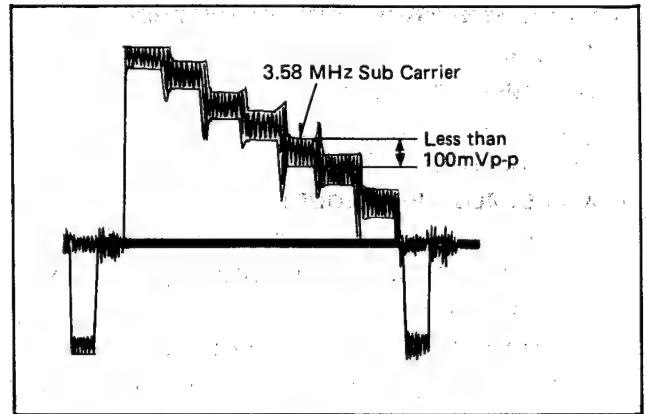

Fig. 7
8. Confirm that 3.58 MHz sub carrier portion of the magenta is less than 100mVp-p as shown in Fig. 7.